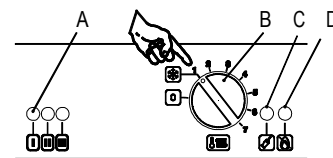

Figure 15.3
- Turn the function selector B as in Fig. 15.3. The appliance operation light A will flash every 2 seconds.
The boiler will now go through an ignition sequence and the burner will light. If during the ignition attempt period the boiler fails to light, the full sequence control p.c.b. will go to lockout and the lock-out signal lamp D will appear. To reset the boiler turn the knob B (figure 15.3) on the 0 position and then press and release the boiler reset button C (Fig. 15.3).
With the burner on high flame close the gas cock. After three ignition attempts (within about three minutes), the lock-out signal lamp must appear (D on Figure 15.3). To reset the boiler turn the knob B (figure 15.3) on the 0 position and then press and release the boiler reset button (C on Figure 15.3).